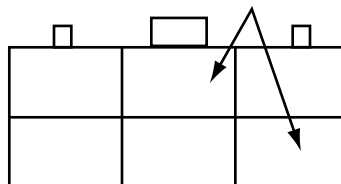

Figure 6-4 Jumper ABS 6-pin connector pins shown for flash codes.
Jump the appropriate connector pins to manually access Daihatsu engine and antilock brake system codes. Refer to Figure 6-4 and Table 6-1 on page 42 to read the codes.
- Jump pins as shown in Figure 6-4 and turn the ignition on. ABS codes and Engine codes flash the same. See Figure 6-7 and Table 6-1 on page 42 for manual code reading information.